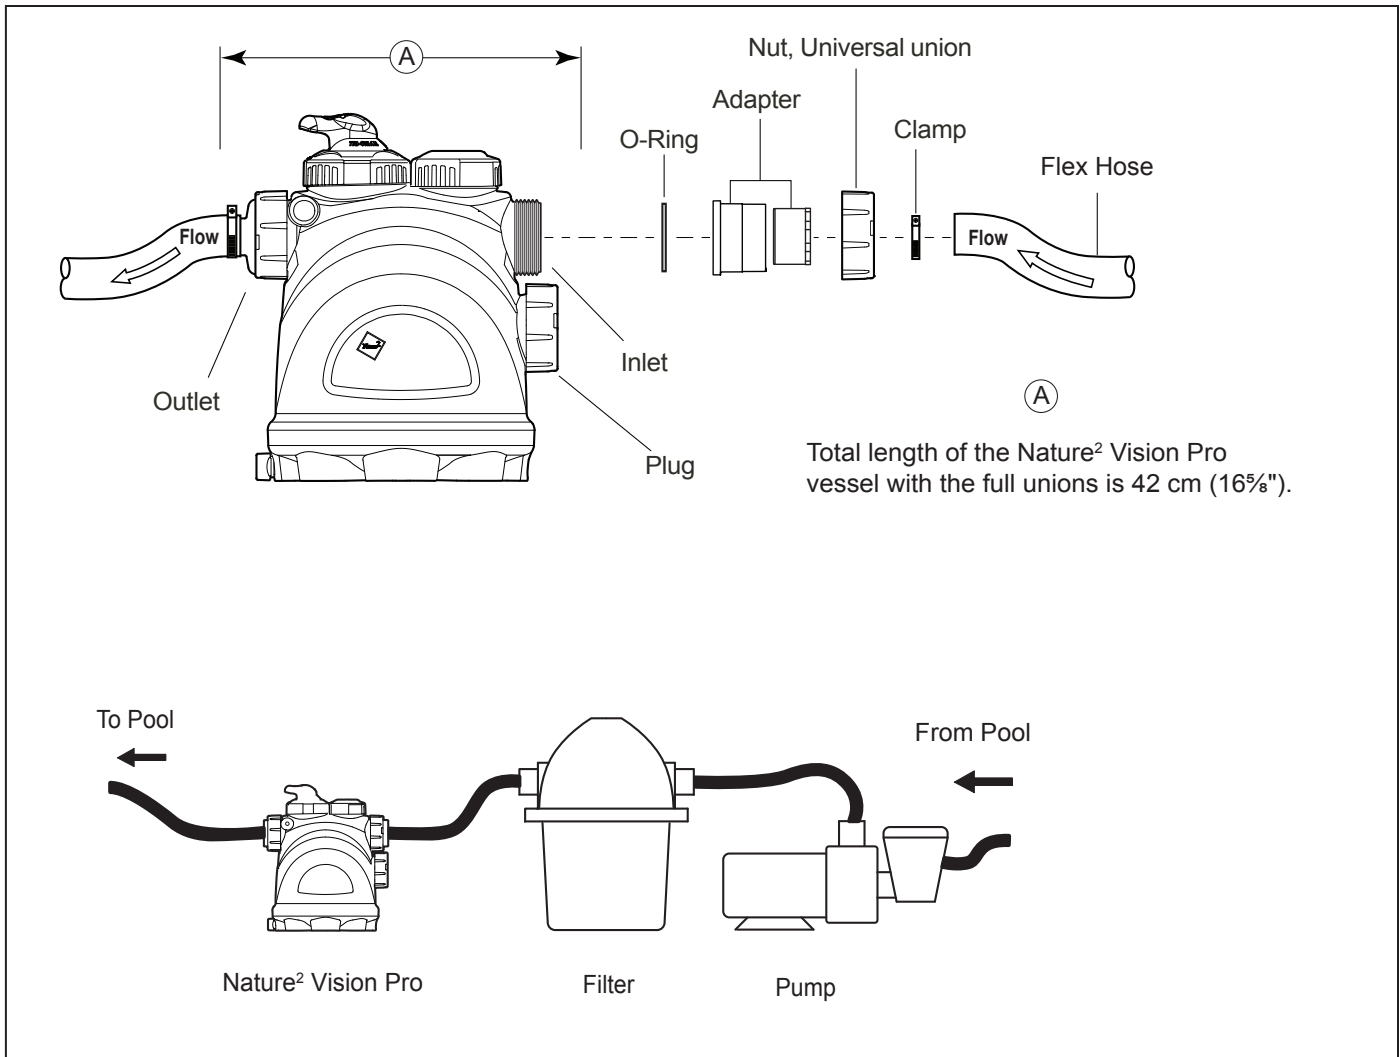

Figure 3. Flexible Hose Installation
3. For flex hose plumbing installation, cut out a 42 cm (165/8") section of the flex hose to insert the vessel (see Figure 3).